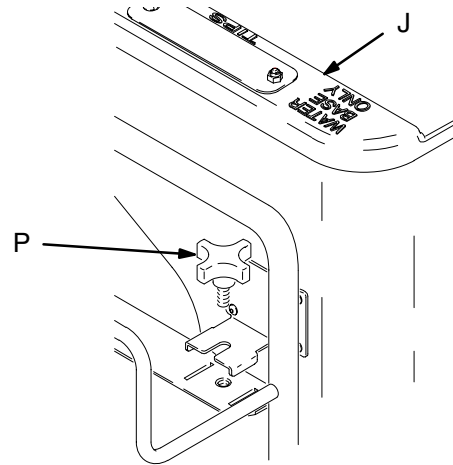

Fig. 8
1. To remove the hopper (J), loosen the knob (P) until about 1 in. of thread shows. Lift the hopper straight up off the unit. See Fig. 8.
2. To install the hopper, position the hopper drain over the pump inlets while tilting the hopper very slightly forward. As you engage the inlets, straighten the hopper and push down. Visually inspect the pump inlets to be sure the hopper is fully engaged. Tighten the knob (P). See Fig. 8.